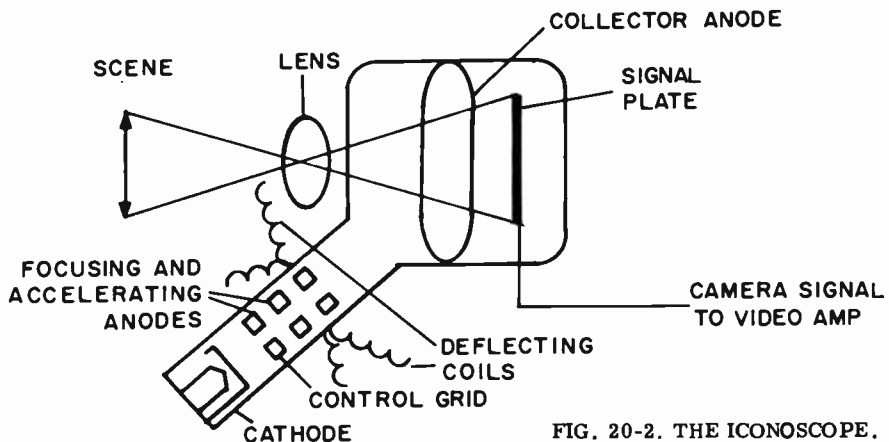

FIG. 20-2. THE ICONOSCOPE.
**THE TV CAMERA TUBE.** The TV camera tube is used to convert a scene or picture information into an electrical signal. Fig. 20-2 illustrates a basic camera tube, called the **ICONOSCOPE**. In the iconoscope, the scene to be televised is focused by an optical lens system on to a mosaic plate. The mosaic plate is made up of a thin sheet of mica approximately .001" thick. On the side of the sheet facing the lens system, there is a layer of microscopic globules of cesium silver. The globules are placed on the mica plate in such a way that they do not touch each other. Each one is insulated from the other. On the other side of the mica plate, there is a coating of colloidal graphite. This coating acts as the signal electrode and conducts the
Let us return to the picture tube of Fig. 20-2. The electron gun in the neck of the tube develops a fine beam of electrons that flows to the mosaic. By allowing the beam to pass over each globule, we replace the electrons that were originally lost due to the light. By means of capacitor action, this change in the charge of the globule is transferred to the colloidal graphite plate and a small pulse of current flows in the external circuit. This small pulse of current is the video signal. As we pass over the various globules, pulses of current are developed which conform in amplitude to the original light intensities of the various elements of the picture. How can we have the beam pass over each globule? The way it is done in actual practice is to break up the mosaic into 525 horizontal lines. The beam then passes over each of these 525 lines from left to right. When the beam completes its tracing of all the lines, the beam is brought up to the top of the picture and starts all over again.